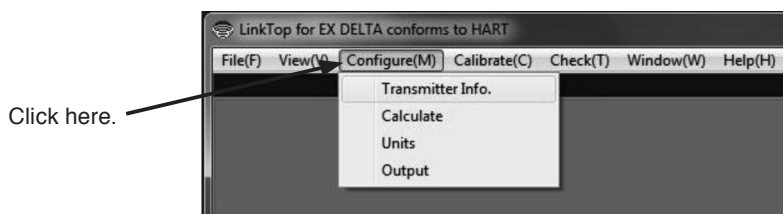

Fig.23
- ① Click on "Configure (M)" at top-level menu of the screen as shown in Fig. 23, select "Transmitter Info. (I)" and click on again.